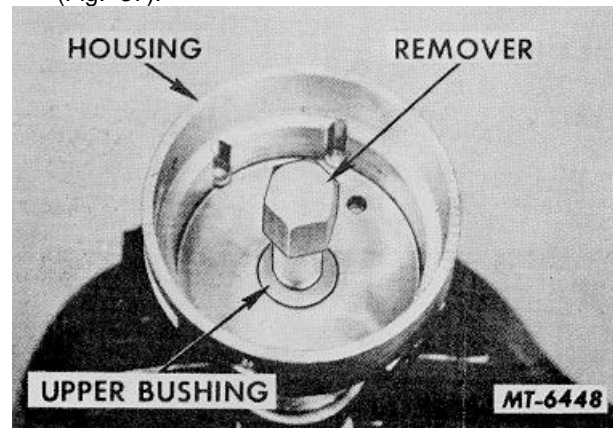

Fig. 37 Bushing Remover SE-1955-5 Installed in Upper Bushing
1. Install bushing remover SE-1955-5 in upper bushing (Fig. 37).